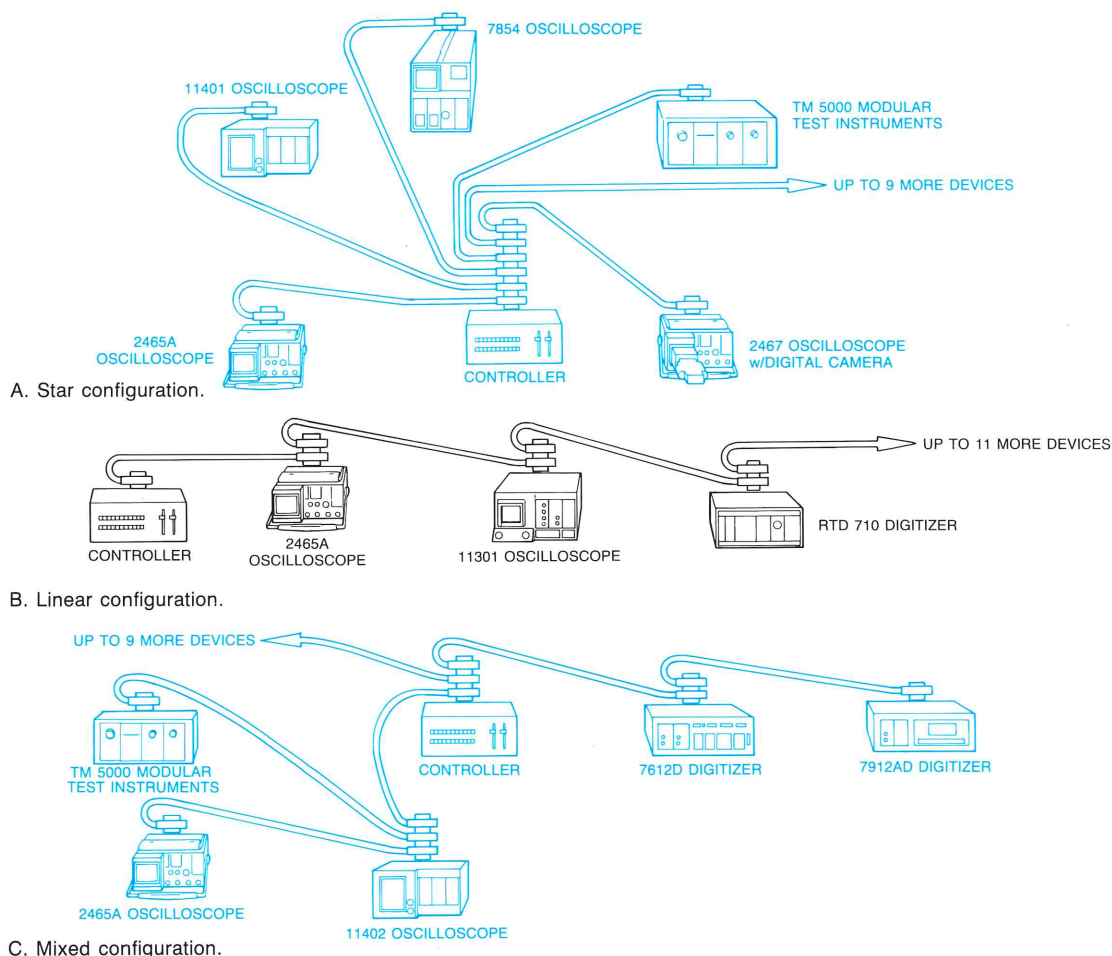

Figure 3. Up to 15 devices may be cabled to a single GPIB bus in a star, linear, or mixed arrangement.
1. Cable the system components together. The instruments and controller can be cabled in a star or linear fashion, or a combination of the two (see Figure 3). Up to 15 devices, including the controller, can be connected to the bus. If the controller supports two or more busses, each bus can have up to 15 devices, including the controller. Some plug-in devices may represent more than one load, so check the instrument manual for details.